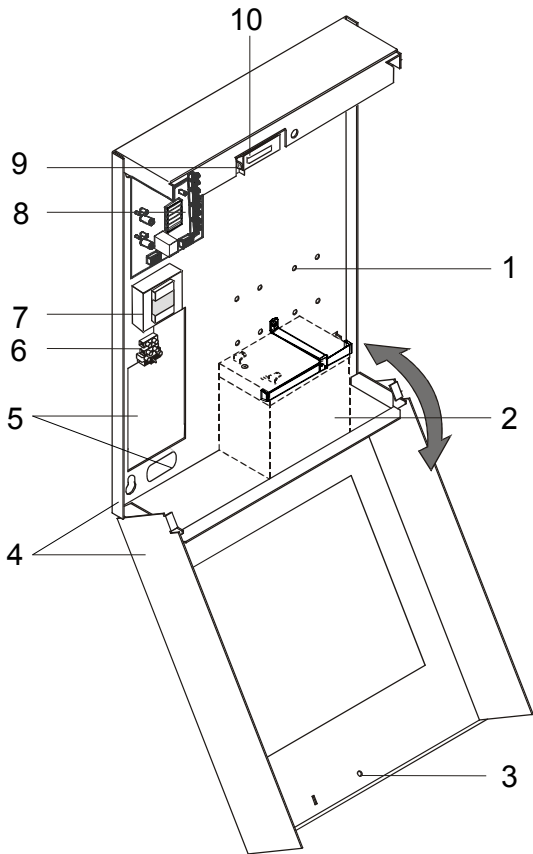

Fig. 1
1. Loosen cover screw (3) Fig. 1